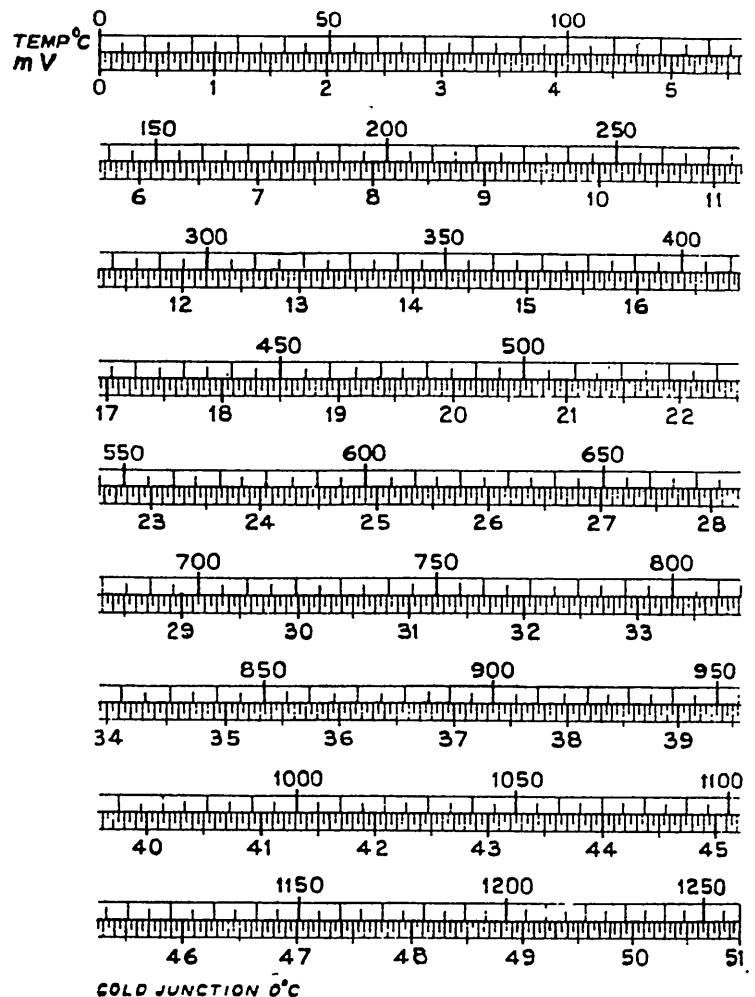

Fig. 1. Temperature-millivolt equivalents (nickel-chromium/nickel-aluminium couples)
8. Should the system still be suspect, the thermocouple should be checked by applying heat at a known temperature and measuring the millivolt output. Fig. 1 shows temperature millivolt equivalents for nickel-chromium/nickel-aluminium couples.